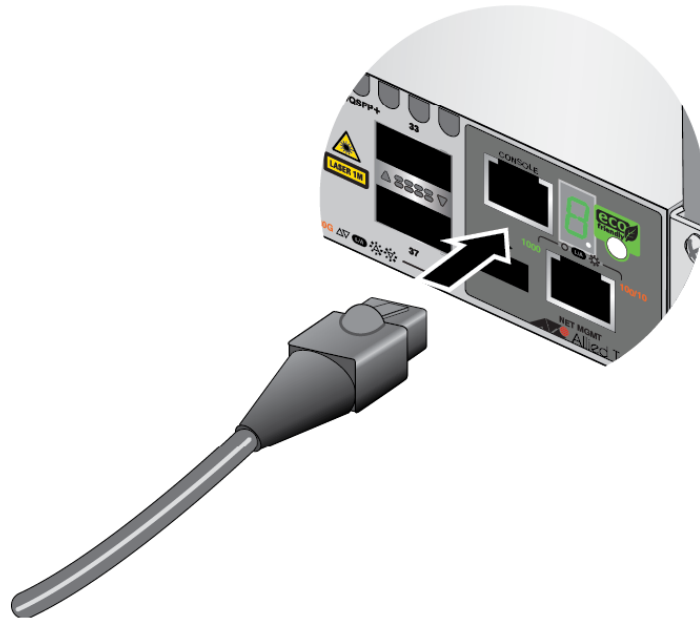

Figure 105. Connecting the Management Cable to the Console RS-232 Port
1. Connect the RJ-45 end of the management card included with the switch to the Console RS-232 port on the management panel. Refer to Figure 105.